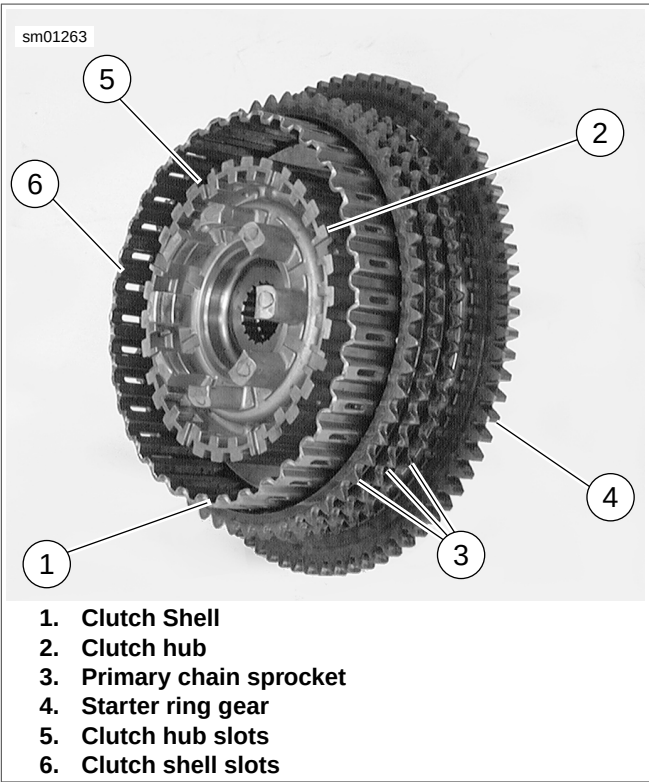

Figure 5-15. Checking Clutch Hub and Clutch Shell
- g. See Figure 5-15. Check the primary chain sprocket (3) and the starter ring gear (4) on the clutch shell (1). If either sprocket or ring gear are badly worn or damaged, replace the clutch shell.
- h. Check the slots (5, 6) that mate with the clutch plates on both clutch shell and clutch hub (2). If slots are worn or damaged, replace shell and/or hub.